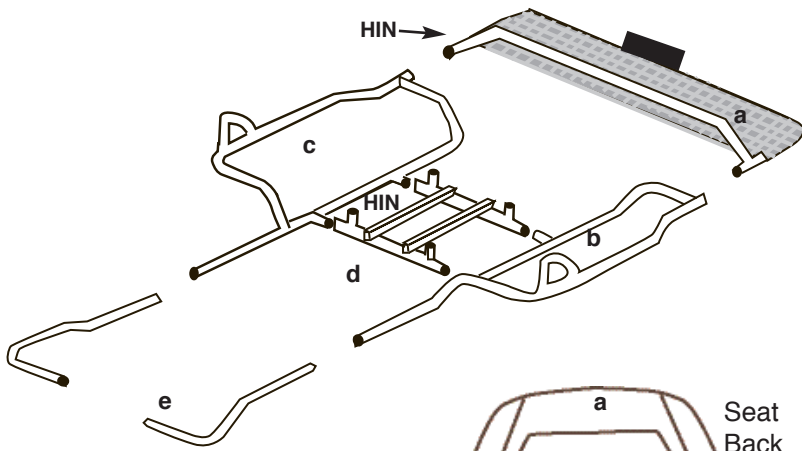

Fig. 1
2. Assemble Seat Support Frame Member to Left and Right Frame Members using (4) of the Short Snap Pins. (see figure 1)
3. Assemble Cargo Deck to Left and Right Frame Members using (2) Short Snap Pins (see figure 1).
4. Assemble Foot Bars to Left and Right Frame Members using (2) Short Snap Pins (see figures 1).
HIN IS LOCATED ON SQUARE TUBING OF SEAT SUPPORT FRAME MEMBER AND ON RIGHT MAIN FRAME MEMBER (SEE FIGURE 1)